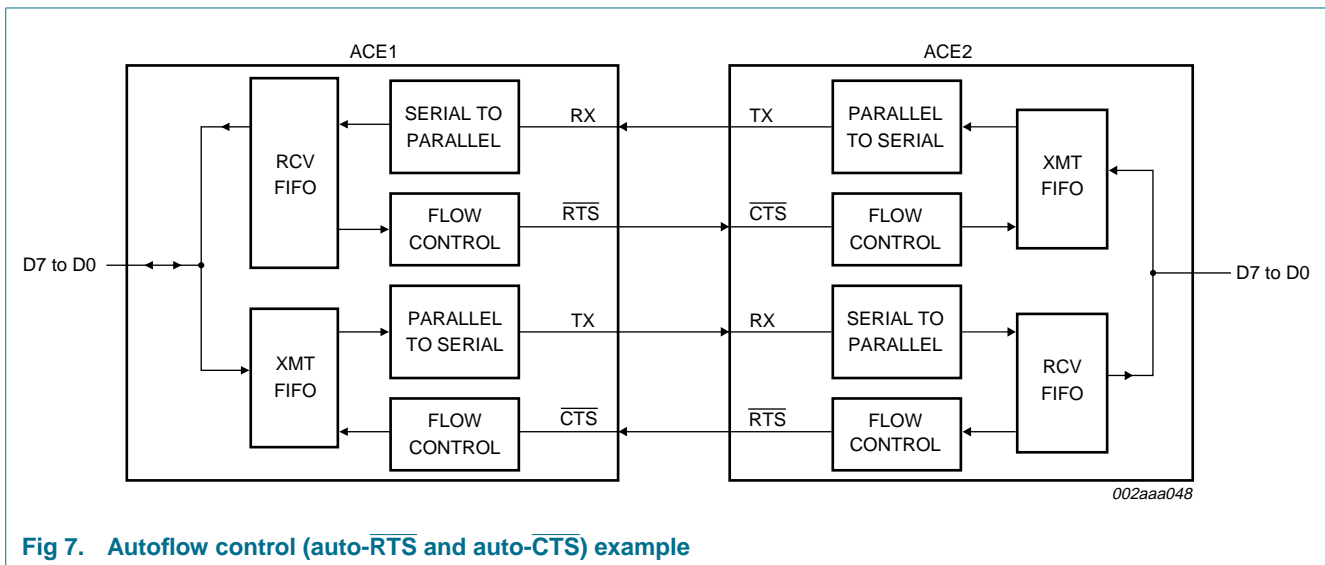

Fig 7. Autoflow control (auto- $\overline{\text{RTS}}$ and auto- $\overline{\text{CTS}}$) example
6.4 Autoflow control (see Figure 7)
6.4.1 Auto- $\overline{\text{RTS}}$ (see Figure 7)
6.4.2 Auto- $\overline{\text{CTS}}$ (see Figure 7)